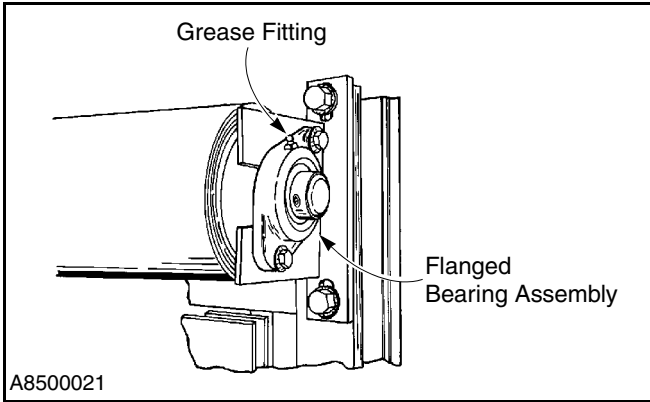

Figure 18
- Flanged Bearing:** The fabric roll is supported by a flanged bearing located on the roll shaft end opposite the motor/brake assembly. The flanged bearing is equipped with a grease fitting. Recommended lubrication is a lithium-based grease conforming to NLG1 Grade 2 standards. It should be medium viscosity, low torque, with an operating temperature range of -30°F to $+200^{\circ}\text{F}$. (See Figure 18.)